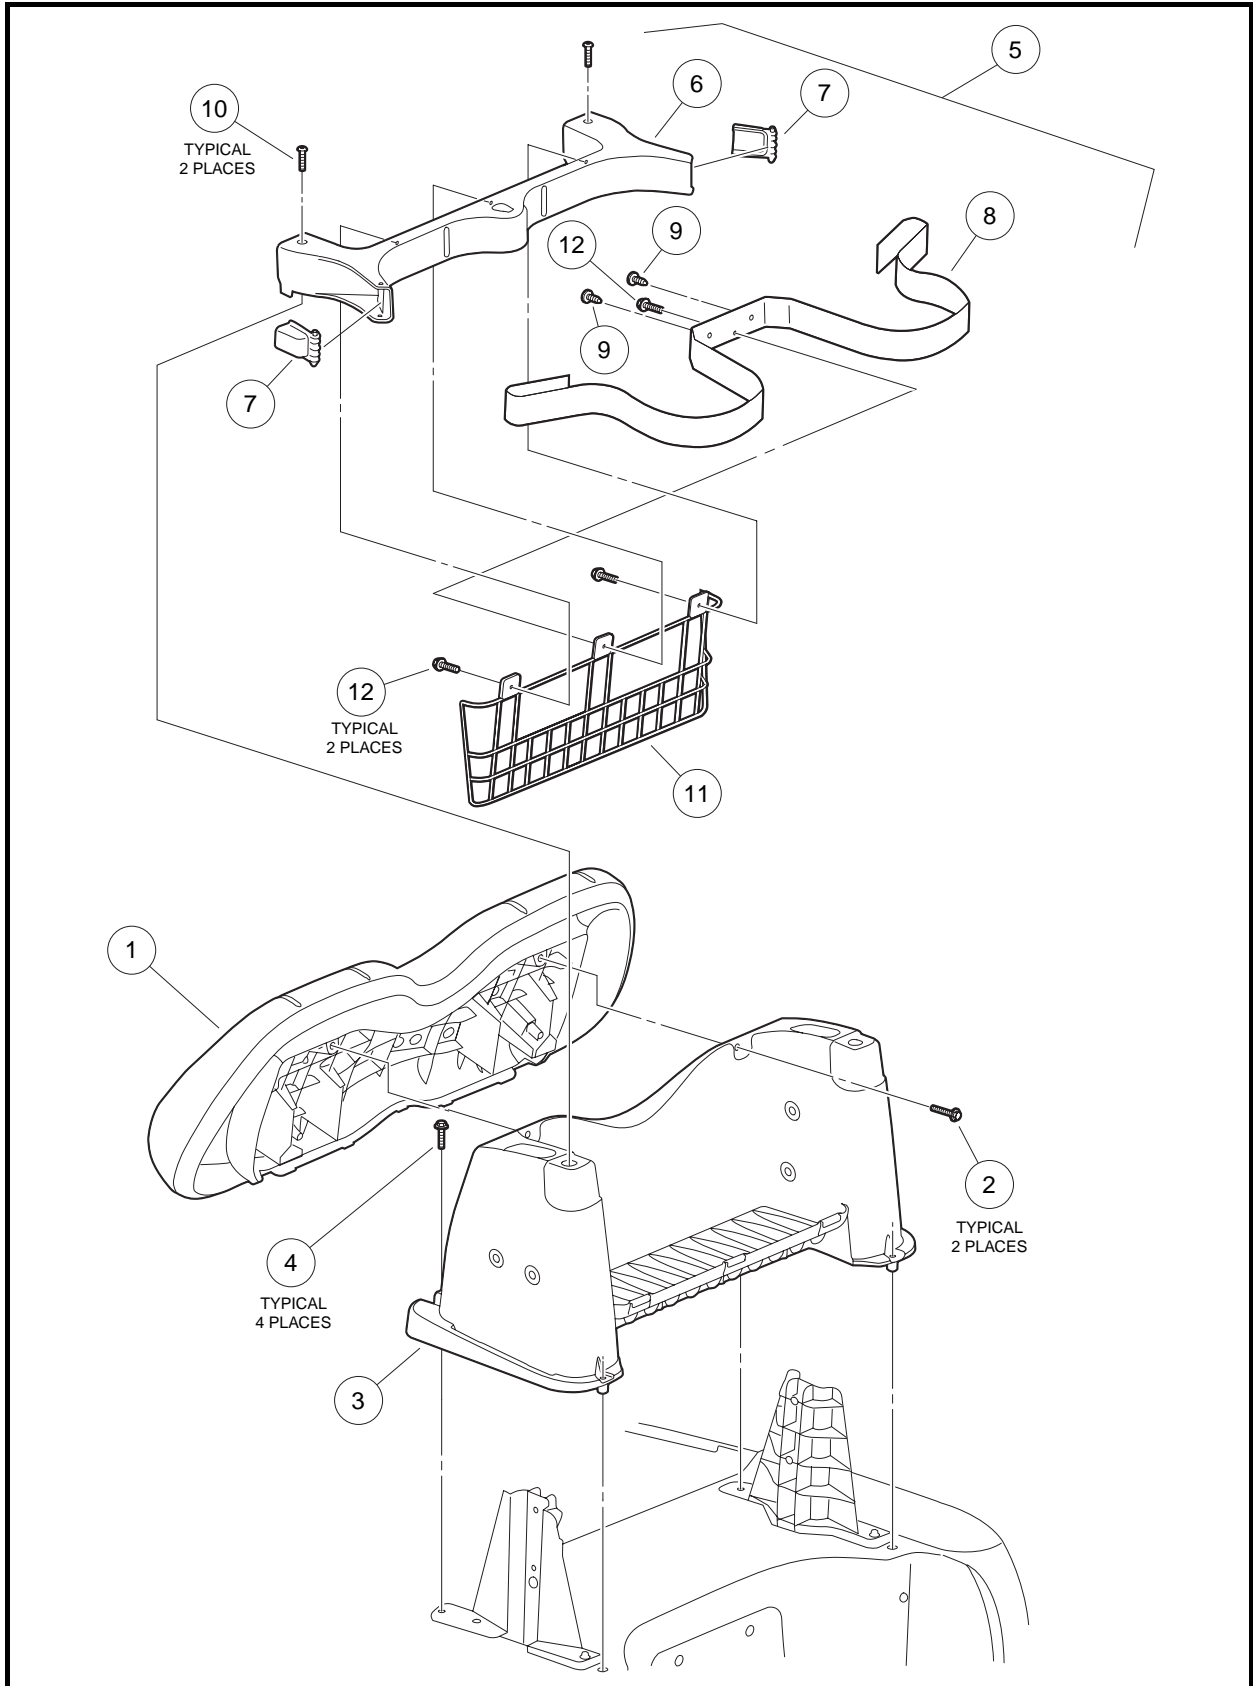

Figure 4-7 Backrest and SAM
1. Remove four bolts (4) to release the SAM (3) from the vehicle (**Figure 4-7, Page 4-9**)
1. Position the SAM (3) over its mounting holes and secure with four screws (4). Tighten screws to 53 in-lb (6 N·m) (**Figure 4-7, Page 4-9**).
The backrest (1) is secured to the SAM (3) with two screws (2) (**Figure 4-7, Page 4-9**). When replacing the backrest, tighten screws (2) to 5.9 ft-lb (8 N·m).
1. Remove two screws (10) to release the bag hoop (6) and related components from the SAM (3) (**Figure 4-7, Page 4-9**).
2. Bag strap (8) may be released by removing two plastic barrel connectors (9) and one screw (12).
3. Bag strap buckles (7) may be snapped out of bag hoop (6).
Installation is the reverse of removal. Tighten screw (12) to 4.8 ft-lb (6.5 N·m) and screws (10) to 11.8 ft-lb (16 N·m) (**Figure 4-7, Page 4-9**).
The sweater basket (11) is secured to the bag hoop assembly by three screws (12). Tabs on the upper edge of the basket align with holes in the bag hoop (6) for installation purposes. Tighten screws (12) to 4.8 ft-lb (6.5 N·m) to secure the sweater basket (**Figure 4-7, Page 4-9**).